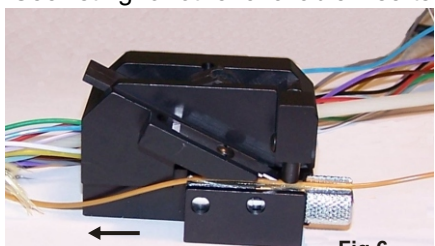

Fig.6
5. To ensure the buffer tube is properly positioned, slide the tool to the left approximately 1/4" (Fig.6). It should slide easily with almost no resistance. If resistance is felt, the buffer tube may be improperly seated in the channel. Re-position the tube if necessary.